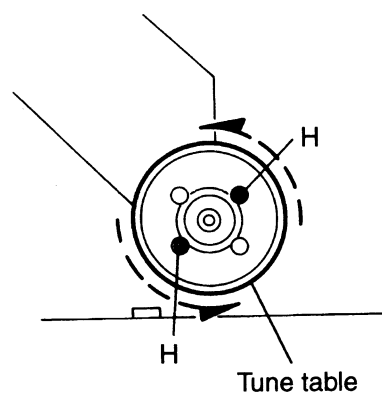

Fig. 24
2. While turning the turntable, remove the two screws (H) retaining the spindle motor and take out the spindle motor (See Fig. 24).